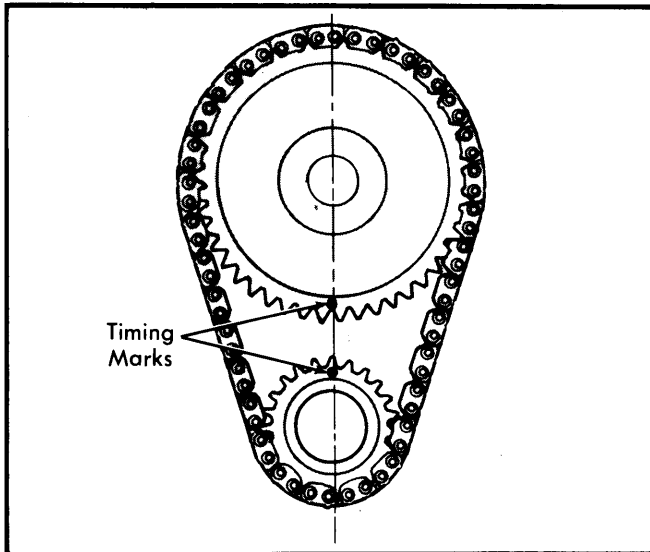

Fig. 8 Timing Chain Sprocket Alignment
Installation — 1) Install camshaft sprocket in timing chain with timing mark toward front. Place chain over crankshaft sprocket, aligning timing marks on both sprockets. See Fig. 8.
2) Install valve lifters. Insert camshaft sprocket in timing chain with timing mark toward front. Place chain over crankshaft sprocket and align timing marks on both sprockets. See Fig. 8. Install timing chain and gears, making sure index hole in camshaft lines up with index hole in sprocket.